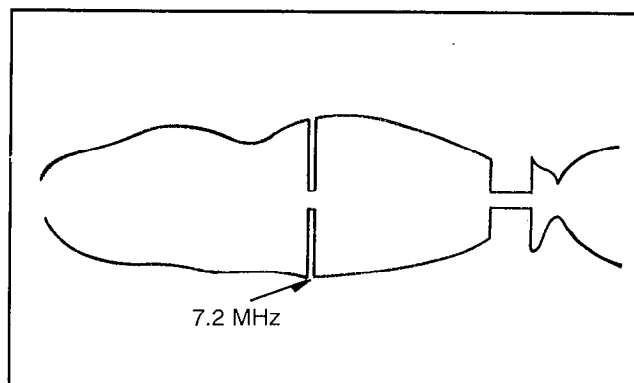

Fig. E9
4. Adjust VR3002 so that 7.2Hz is maximized. (Refer to Fig. E9)